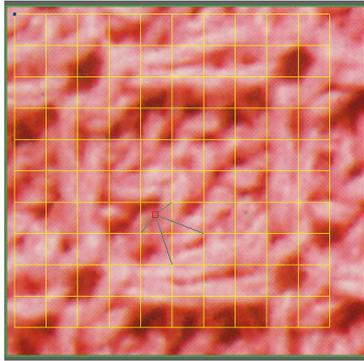

Figure 6-23B Select the moving point
- ii. Move the cursor to the new position of the grid point. (Figure 6-23B).